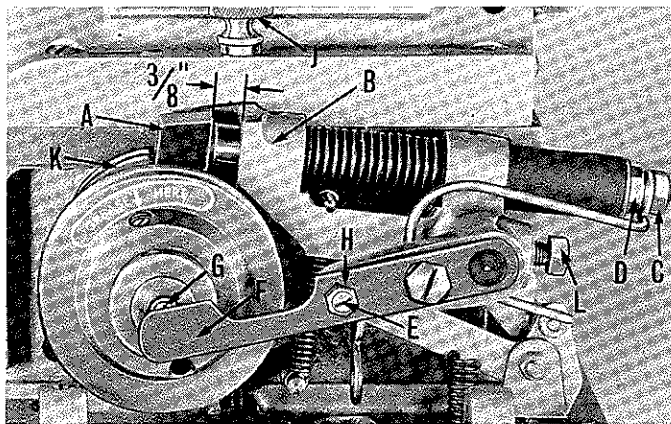
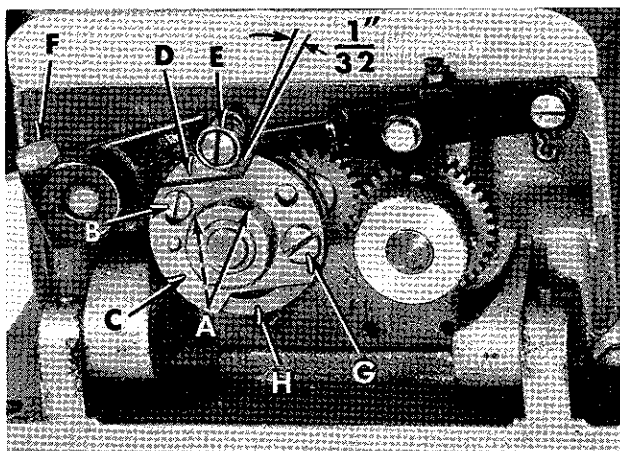
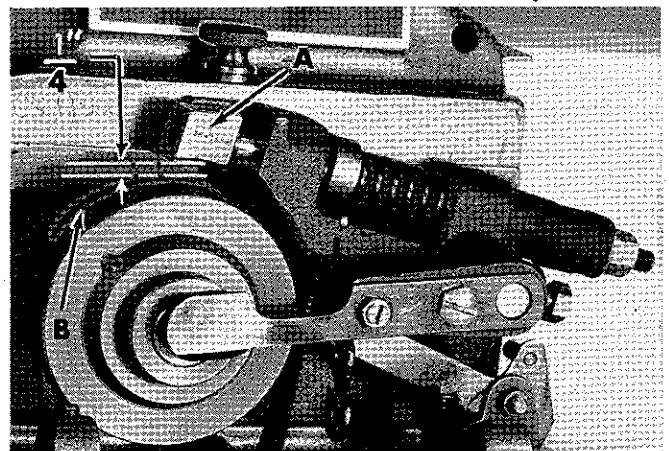
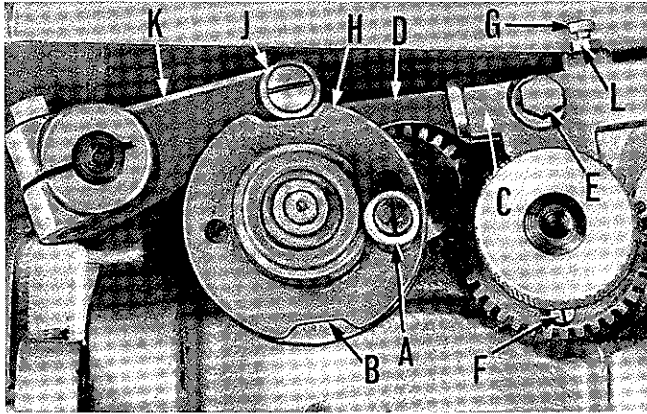

Fig. 1
Fig. 2A
Fig. 3A
Fig. 5
This position is that which is shown in Fig. 1 with the stop motion disc and pawl (K) against the plunger (A).
With the machine in stop position, the stop motion plunger (A, Fig. 1) should be set so that there is $\frac{3}{8}$ inch clearance between the bottom of the plunger and the plunger lever bracket (B). Loosen the back lock nut (C), and adjust the front nut (D) to obtain this setting. Lock the back nut. Adjust screw (E) in cam lever (F) so that there is $\frac{1}{32}$ inch clearance between ball (G) and the thin section of lever (F) when the pulley is pressed in towards machine. Lock screw with nut (H). Make sure that set screw (L) is securely tightened.
With the machine in stop position, loosen the two socket head set screws (A, Fig. 2A) and screw (B). Rotate "left cam" (C) counterclockwise to the top of its elongated slot (as viewed in Fig. 2A) and tighten screw (B). Rotate cam (C) and "right cam" (D) as required to obtain 1/32 inch clearance between roller (E) and the front of slot in cam (D); tighten set screws (A).
Depress the treadle to take machine out of stop position, then rotate pulley two complete revolutions in operating direction. Release treadle and measure the distance between plunger (A, Fig. 3A) and the highest point on disc (B). The distance should be 1/4 inch. Adjustment can be made by loosening clamp screw (F, Fig. 2A) in the stop motion trip lever and moving lever up or down to attain specified clearance. Should it become necessary to move the lever down, depress the treadle while making adjustment. Retighten clamp screw (F).
- Step 1. With the machine in stop position, loosen screws (A, Fig. 2A) and screw (B). Advance "left cam" (C) by rotating it clockwise, SLIGHTLY, relative to the "right cam" (D). Retighten screws (A and B) after referring to NOTE 1 above.
- Step 3. Should disc and pawl (K, Fig. 1) stop short of plunger (A), (this can be checked by rotating disc towards the operator and if the plunger does not catch the disc and pawl, the machine has not reached its stopped position), denoting cam is advanced beyond proper setting. To correct: retard "left cam" (C, Fig. 2A) by rotating it counterclockwise, SLIGHTLY, relative to the "right cam" (D). Refer to NOTE 1 above, before securing screws (A and B).
NOTE: 2. With reference to (A, Fig. 5) under "STITCH SETTINGS", the stitch adjusting knob has been replaced by screw (G, Fig. 2A) which secures cam shoe (H) using the upper or lower hole in "left cam" (C), as applicable.
Depress treadle to take machine out of stop position, and rotate pulley two complete revolutions in operating direction. Loosen knurled screw (J, Fig. 1) and lay machine on its side.
Figure 5 shows the machine in stop position, and set for 12 or 16 stitches. The stitch adjusting knob (A) is at its low position at the bottom of the slot and the gap (B) is closed. To change to 6 or 8 stitches, simply pull out on the stitch adjusting knob (A) and raise it to the top of the slot. At this point, the gap (B) will be open.
When changing from 6 or 8 to 12 or 16 stitches, the machine must be in stop position with the stitch adjusting knob (A, Fig. 5) towards the front. Pull out on the stitch adjusting knob (A) and move it to the bottom of its slot as shown in Fig. 5. Gap (B) will now be closed.
When changing from 6 or 8, or 12 or 16, to 24 or 32 stitches, the machine must be in stop position with stitch adjusting knob (A, Fig. 5) to the front. If the machine is in the 6 or 8 stitch position, pull out on the stitch adjusting knob (A) and move it to the bottom of its slot. Check position of screw (F). It should be at the bottom as shown in Fig. 5. If it is not, the machine will have to be re-cycled once to bring screw (F) into proper position.